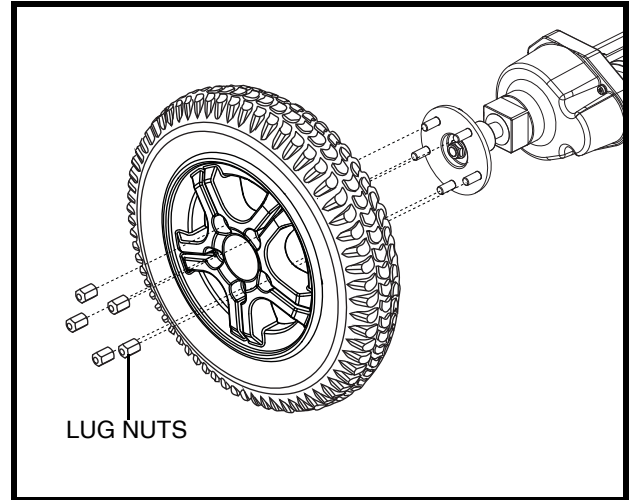

Figure 21. Drive Wheel Removal
4. Remove the lug nuts. **See figure 21.**